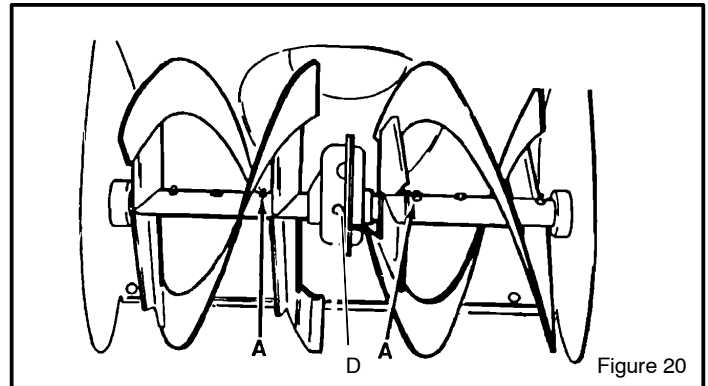
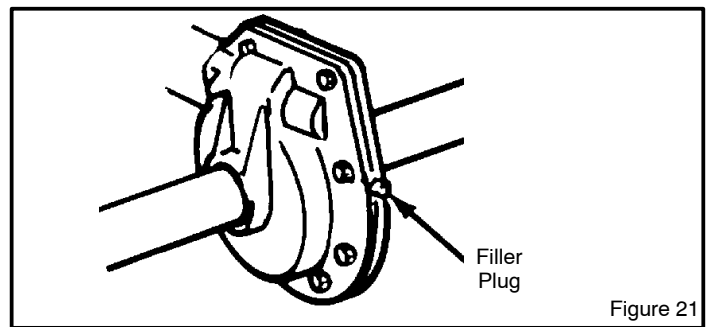

Figure 20
Figure 21
Remove filler plug D (Figure 20 and Figure 21), once a year. If grease is visible, do not add. If grease is not visible, use a piece of fine wire, like a dipstick to check if there is grease in the gear box. Mobilux EP1 and Shell Aldania EP1 are suitable equivalents.
1. **Auger Shaft** - Using a hand grease gun, lubricate the auger shaft zerk fittings (A) every ten (10) operating hours. Each time a shear bolt is replaced, the auger shaft **MUST** be greased (Figure 20). (See To Replace Auger Shear Bolt in the MAINTENANCE section).